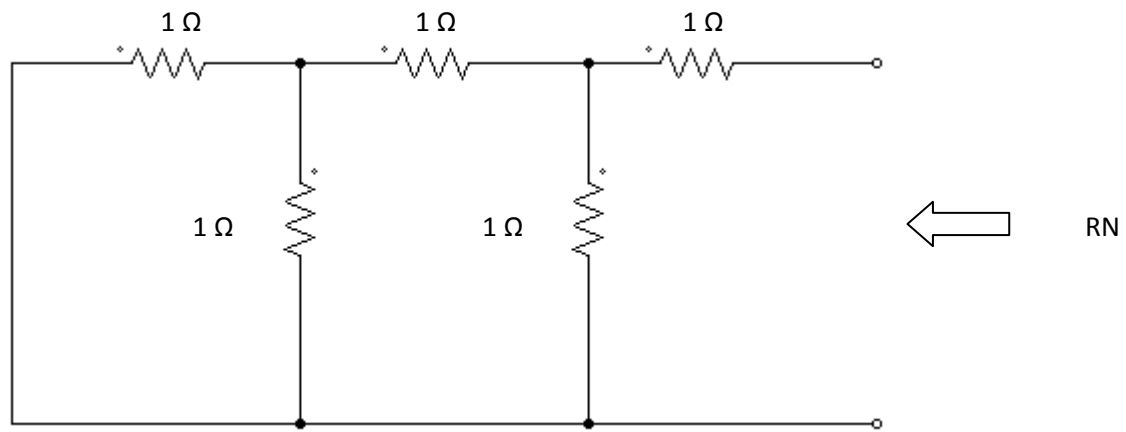

Fig.1.84
Step 1: To find Norton's resistance R_N , open the load resistance & voltage source is preplaced by short and circuit is redrawn as follows in Fig.1.84.